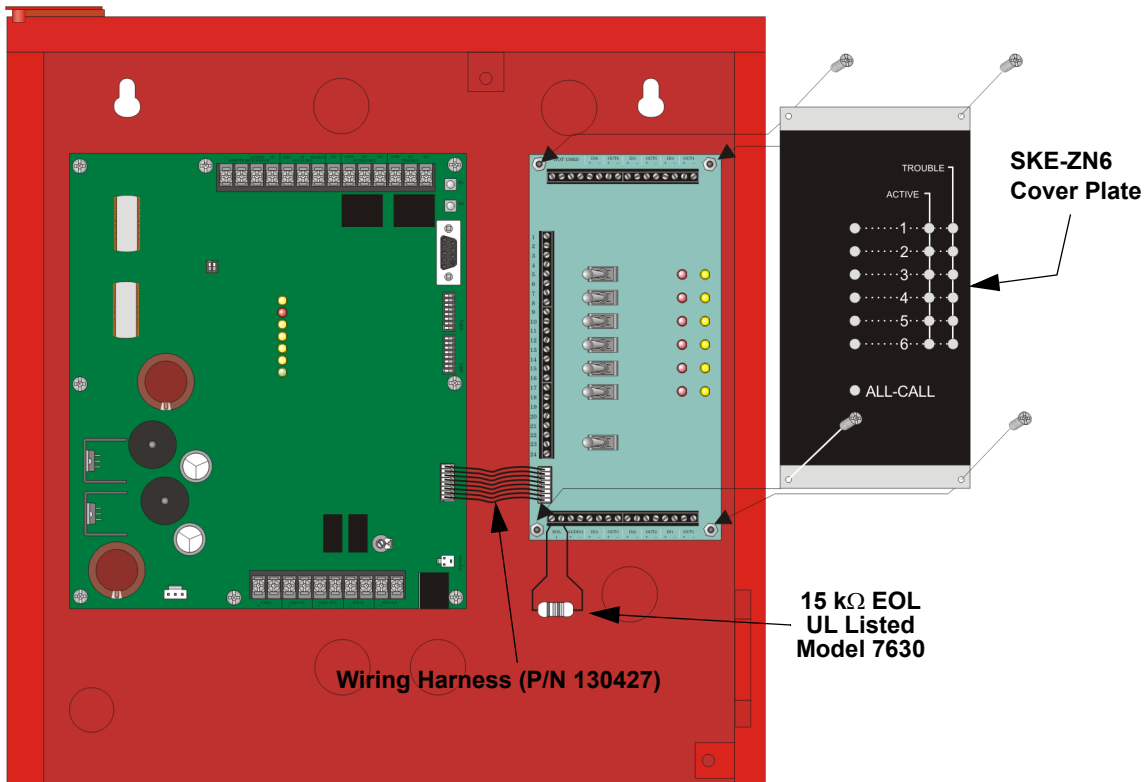

Figure 6-4 View With SKE-ZN6 Installed
- Connect wiring harness to the expansion connector on the SKE450 and to the direct connect pins on the SKE-ZN6. See Figure 6-4.
- Attach the SKE-ZN6 cover plate to the SKE-ZN6. See Figure 6-4.
In order to gain access to the terminals on the SKE-ZN6, the cover plate must be removed. See Figure 6-4.